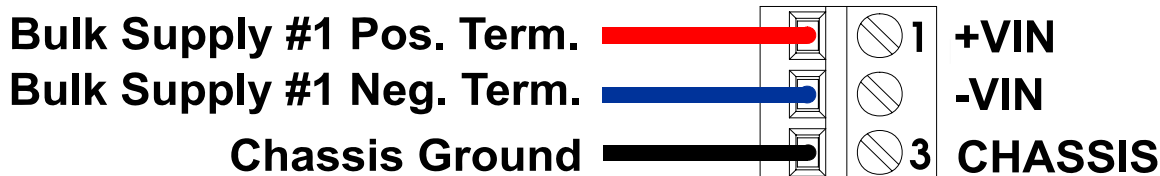

Figure 4-2 - SCM - TB1 (Power Connector)
4.3.4 System Controller Module Connectors (see Figure 4-2, Tables 4-3 & 4-4)